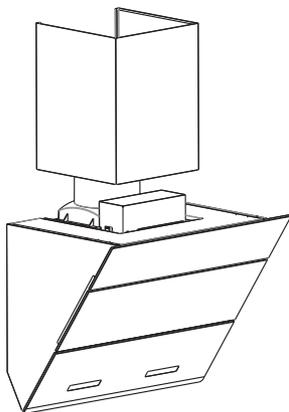

Fig.9
7. Installation of telescopic flue covers (Fig.9)